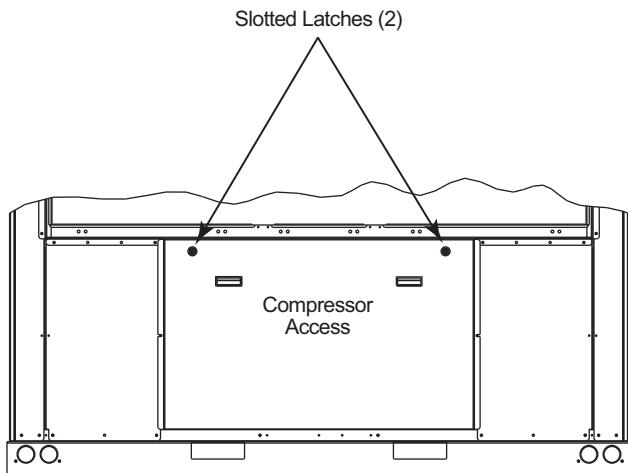

Fig. 3 — Compressor Access Panel with 2 Latches — 38RCS040,050
- c. The 38RCS040,050 units have one compressor access panel with 2 latches at the top of the panel. See Fig. 3.